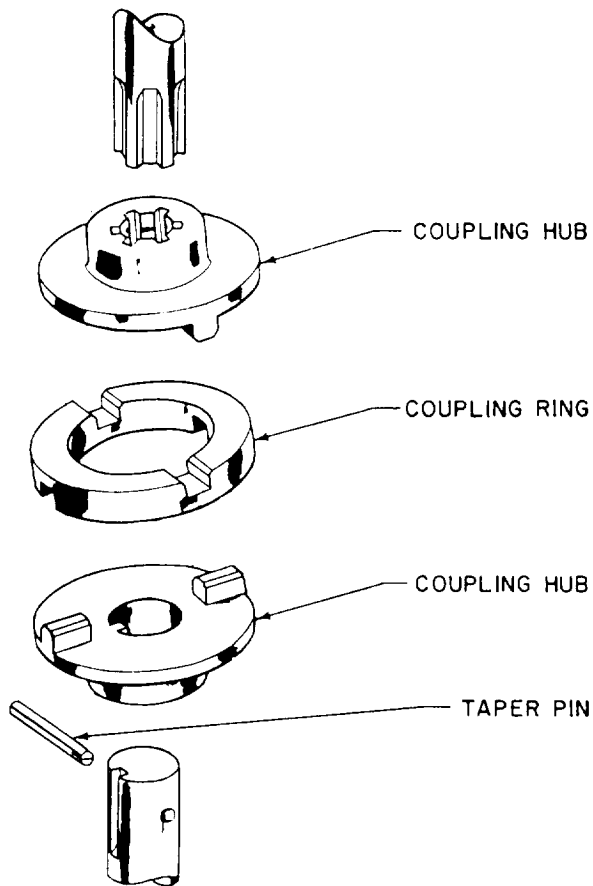

Figure 11-17.-Fixed coupling.
1. The fixed (sliding lug) coupling, which is nonadjustable; it does allow for a small amount of misalignment in shafting (fig. 11-17).